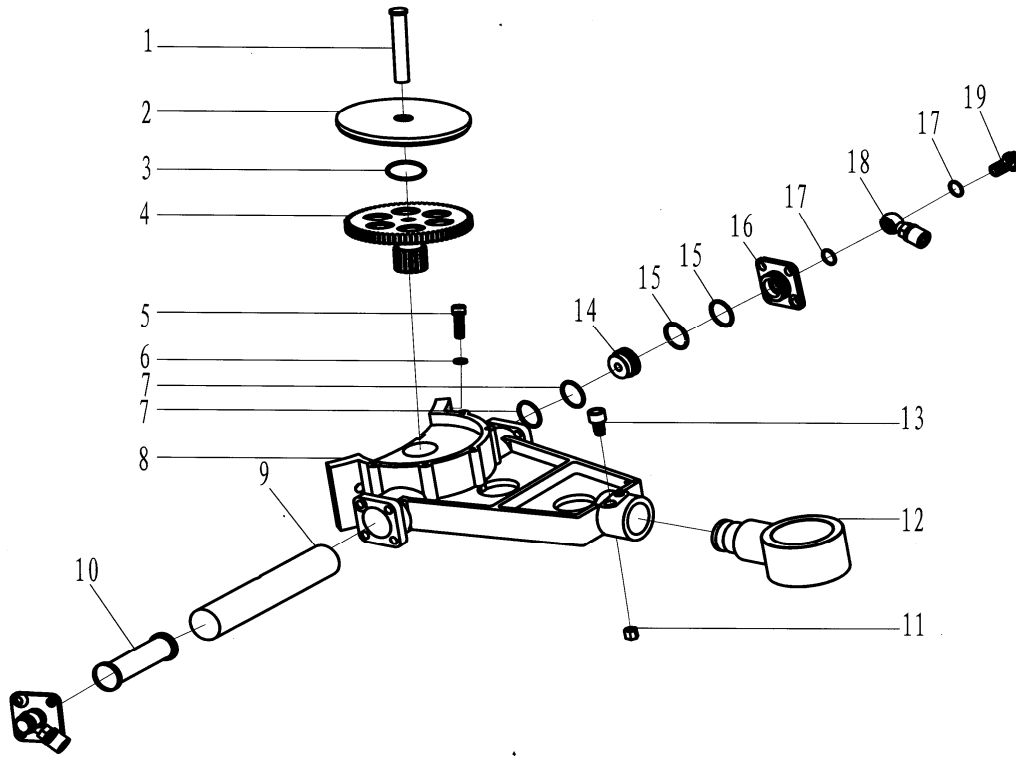

Fig11. Backup tong tail assembly
7.3.2 Backup tong tail assembly (Fig11. Table11)